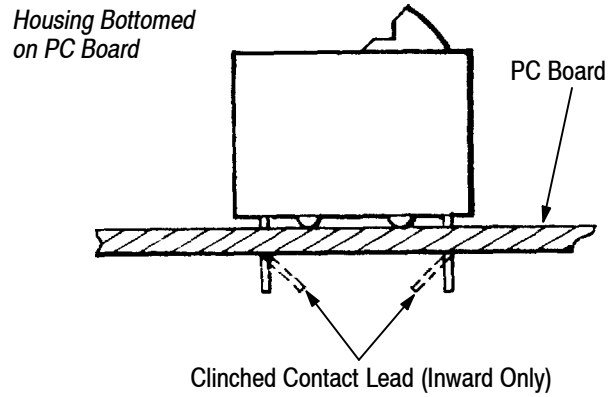

Figure 5
**NOTE** To hold switch in place during wave soldering, the four outside contact leads may be clinched inward at 45°. Refer to Figure 5.